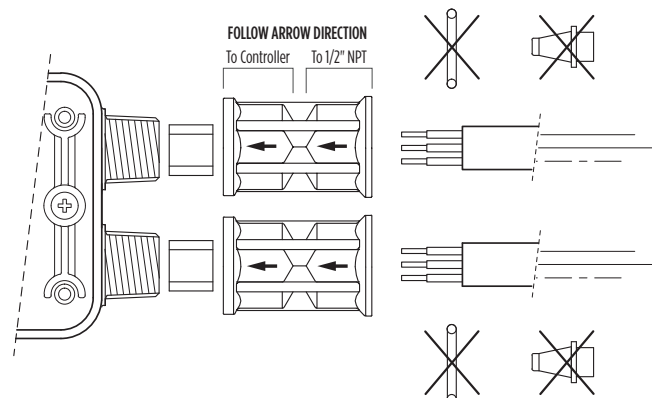
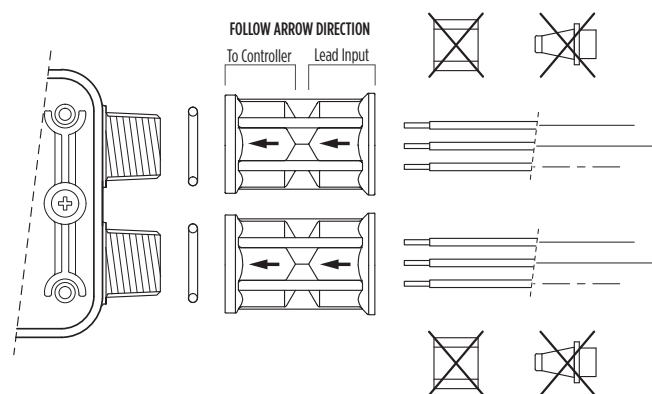

Figure 7
Figure 8
5. If mounting in wet environments, liquid-tight cables (Figure 7) or flexible conduit fitting (Figure 8) are required (not supplied) to ensure that the enclosure maintains a watertight Type 4 rating. Install the liquid-tight cables or flexible conduit fitting into the conduit nuts in front of the power supply and motor connectors (Figures 7 and 8).
⚠ WARNING Liquid-tight cables or flexible conduit and fittings must be used to maintain Type 4 rating (Figures 7 and 8). If you use water-resistant cables to run electrical wire to the pump (Figure 7), tighten the supplied cable/conduit connector to torque of 106 in-lbs (13 Nm).
If you use flexible conduit fittings to run electrical wire to the pump (Figure 8), tighten the supplied cable/conduit connector to a torque of 106 in-lbs (13 Nm), compressing the O-ring against the outside housing of the flow control.
NOTE: The components marked out with an X in Figures 7 and 8 are not used for that specific installation.